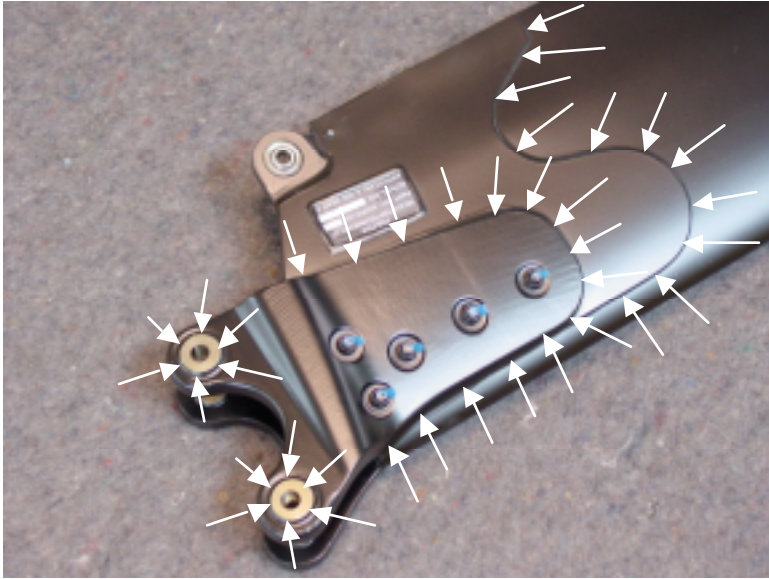
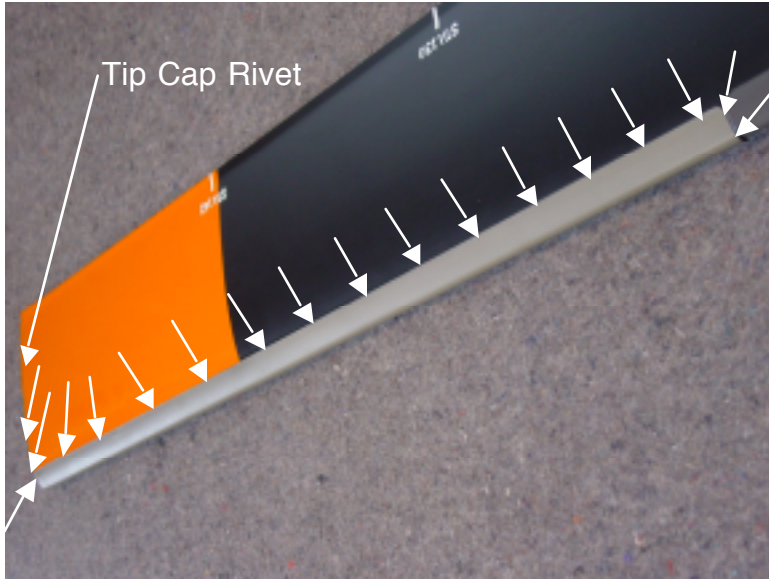

Figure 2 - Main Rotor Blade Root End Affected Areas (Bottom Side Shown)
Figure 3 - Main Rotor Blade Tip End Affected Areas (Top Side Shown)
2. Inspect areas as shown in Figure 2 and Figure 3 for Active Corrosion. Any evidence of corrosion in these areas is cause for scrapping of the blade.
3. If areas do not have Sealant in place, apply small bead of Sealant around peripheries (top and bottom surfaces) of Root Fitting Bushings (inside and outside), around peripheries of Root Fitting-to-Doubler Bond-Lines, around peripheries of Doubler-to-Skin Bond-Lines, around Abrasion Strip-to-Skin Bond Lines, and around the Tip End of the Blade as shown in Figure 2 and Figure 3 below. Ensure that the center portion of each of the Tip Cap Rivets (2 Places, Top and Bottom Side of Blade – Figure 3) are sealed to prevent water/moisture from entering the blade.